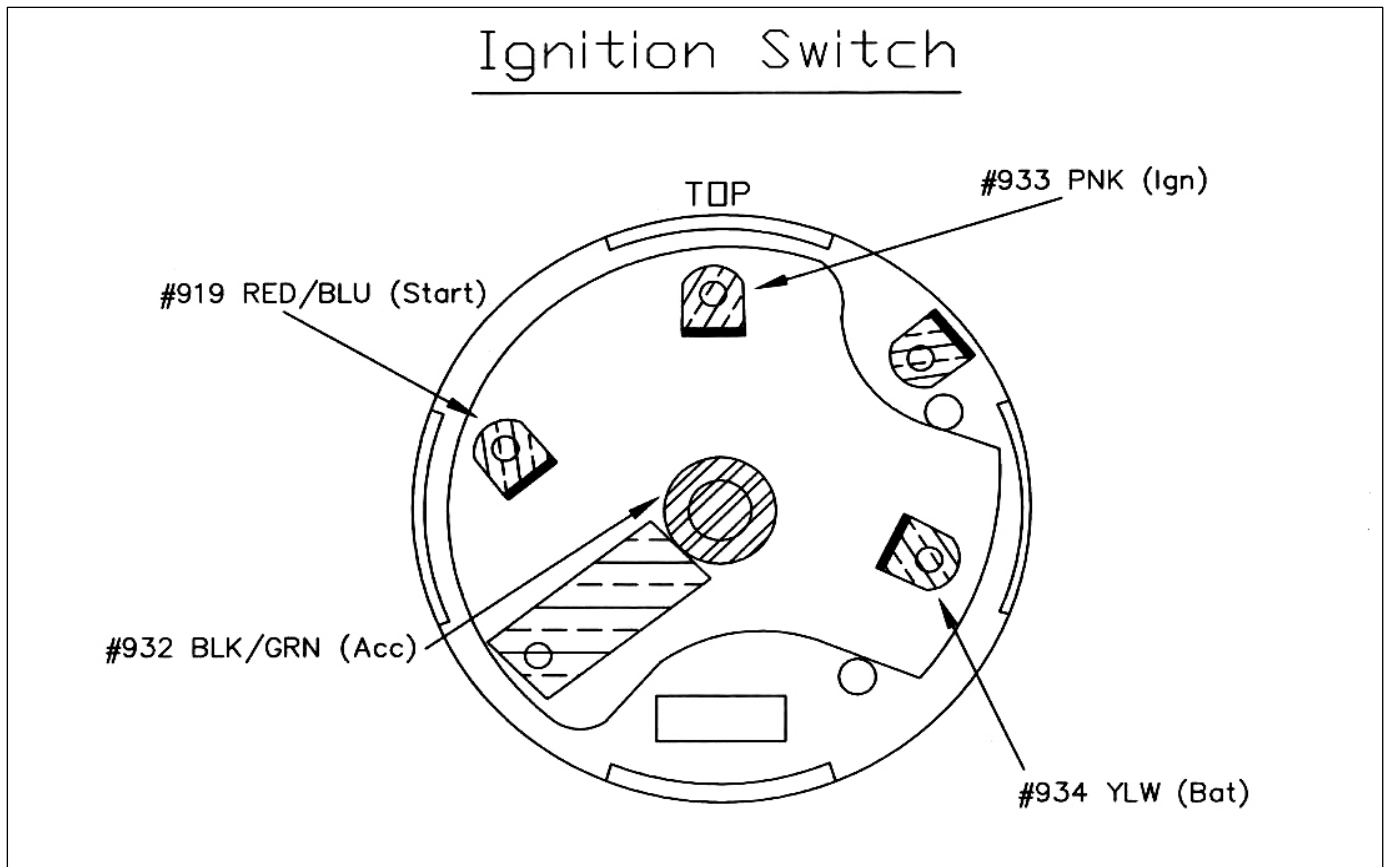

Figure 7-15 Ignition Switch Connections
7.7.1 Connect the IGNITION SWITCH wires to the new supplied Ignition Switch as illustrated in **Figure 7-15**. Use the two 10-24 machine nuts included in the parts kit, to attach the #932 Blk/Grn wire.